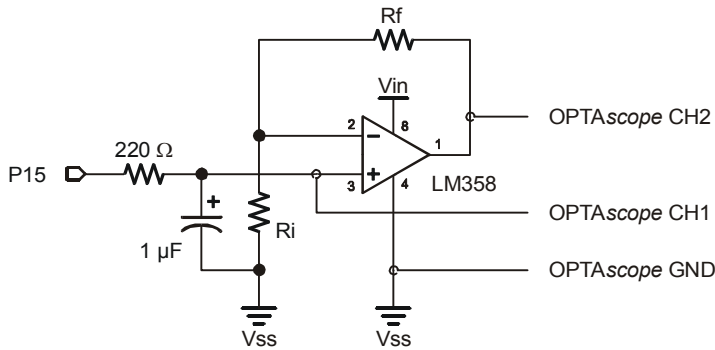
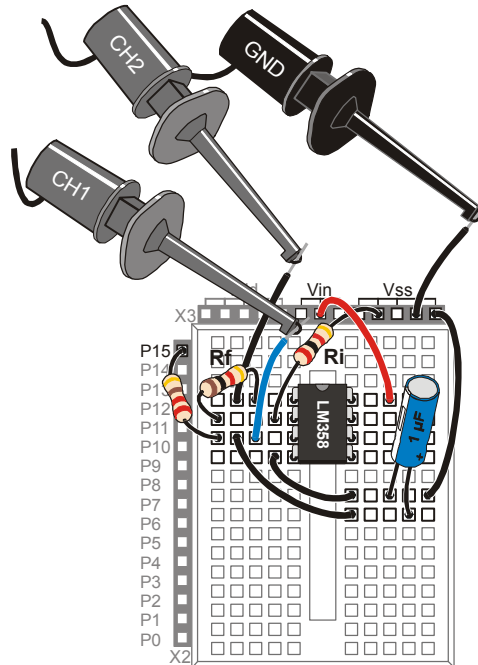

Figure 8-8:
Figure 8-9:
The schematic (Figure 8-8) and wiring diagram (Figure 8-9) for this circuit are shown below. As mentioned earlier, the resistors labeled R_i and R_f in the circuit are the input and feedback resistors. The gain of the amplifier depends on the ratio of the values selected for each of these resistors.
- √ Build the non-inverting amplifier circuit shown in Figure 8-8 and Figure 8-9, making sure to use a 2 k Ω resistor for R_i and a 1 k Ω resistor for R_f .
- ✓ Connect the CH1 and CH2 probes as shown in Figure 8-9.